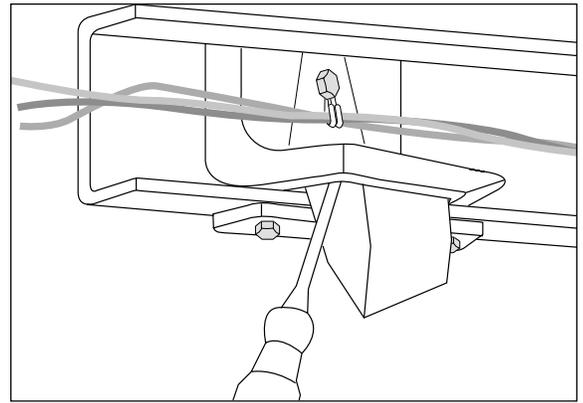

Figure 3
1. Use a screwdriver to remove or pry the rubber jounce bumper from the metal bracket on the frame rail (Figure 3). This will not be reused.